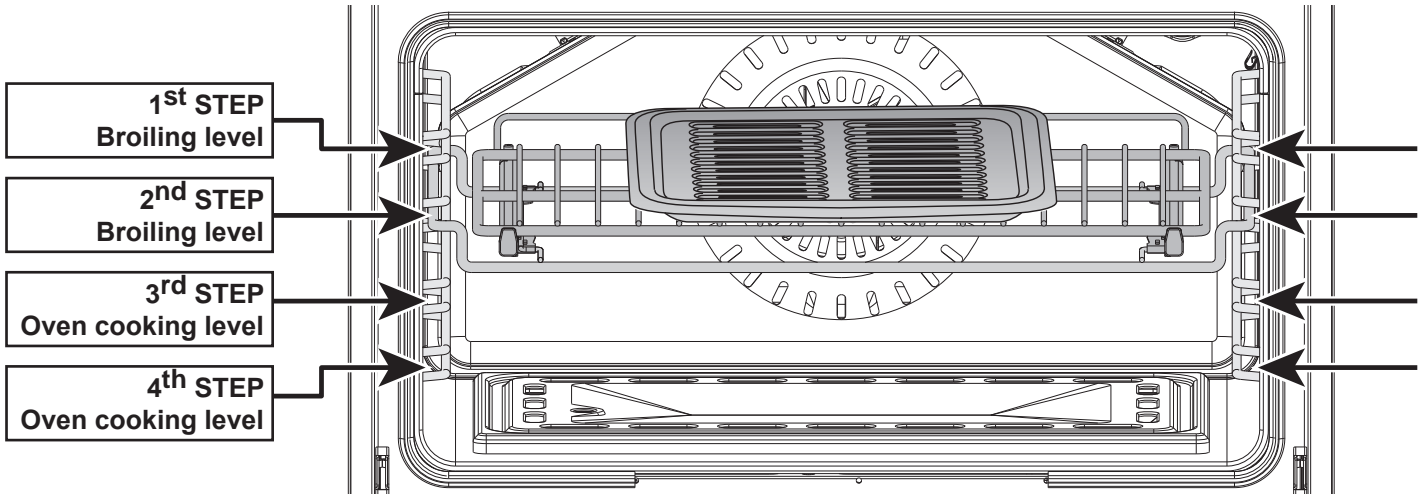
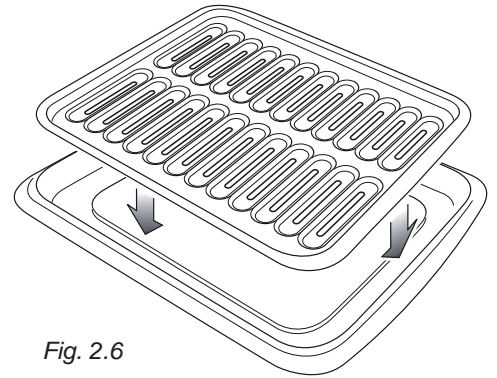

Fig. 2.5
Fig. 2.6
- Position the shelf on the first or second level from the top (fig. 2.5).
- Introduce the broiling pan in the oven (fig. 2.6). The broiling pan should be placed above the shelf and it should be centered with the broil burner (fig. 2.5).